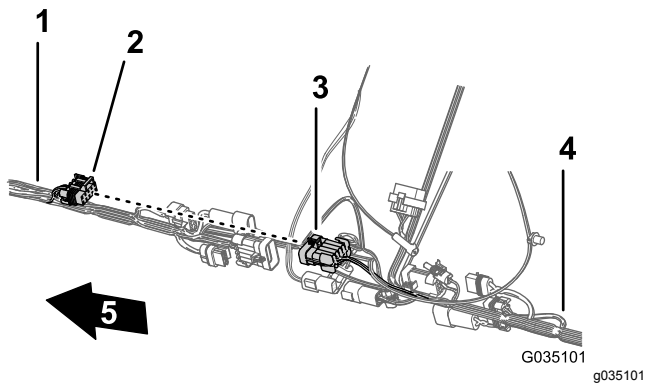

Figure 87
2. Connect the 10-socket connector of the front harness for the sprayer-harness interconnect into the 10-pin connector of the rear harness for the sprayer-harness interconnect (Figure 87).